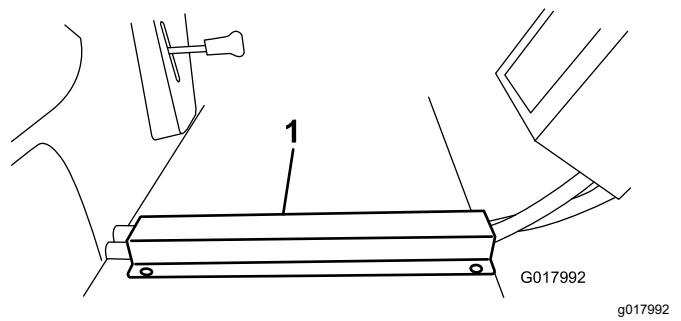

Figure 36
3. Place the hose channel over the hoses on the floorboard and line up the forward edge with the front edge of the floorboard. Mark and drill holes in the floorboard and install the self-tapping screws (Figure 36).